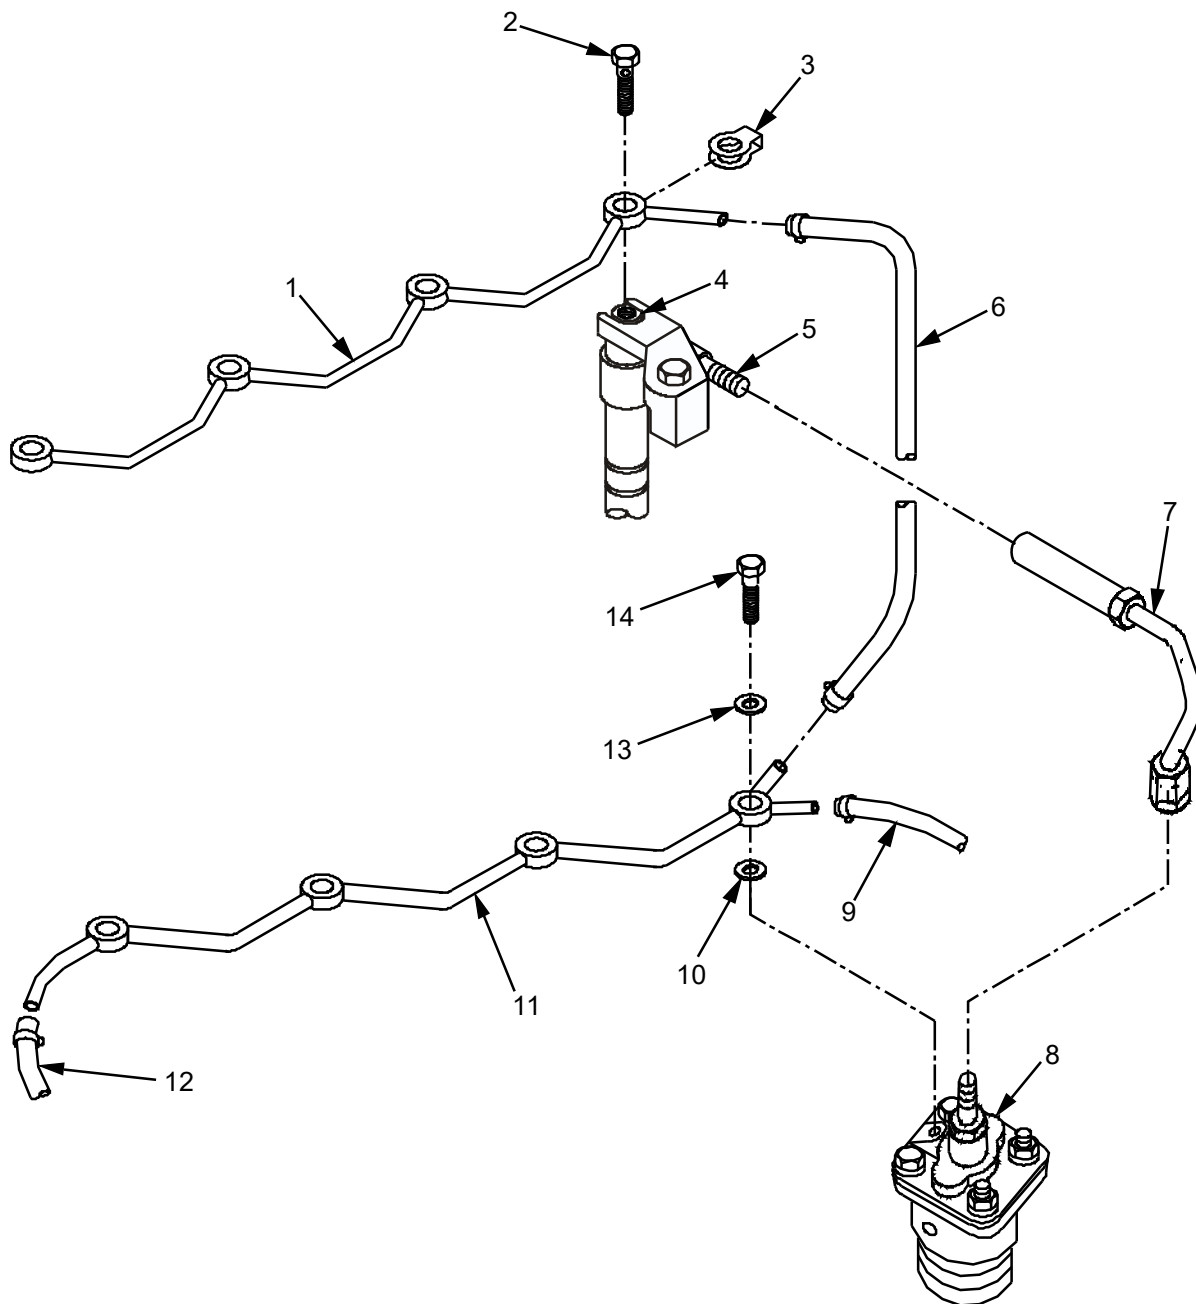

Figure 4. Fuel Injection System Lines - Replace.
6. Disconnect injector fuel line (Figure 4, Item 7) from fuel injector (Figure 4, Item 5).
7. Disconnect injector fuel line (Figure 4, Item 7) from corresponding fuel injector pump (Figure 4, Item 8).
1. Place injector fuel line (Figure 4, Item 7) into position.
2. Finger tighten injector fuel line (Figure 4, Item 7) to corresponding fuel injector pump (Figure 4, Item 8).
3. Finger tighten injector fuel line (Figure 4, Item 7) to corresponding fuel injector (Figure 4, Item 5).
5. Disconnect rubber fuel hose (Figure 4, Item 6) from fuel injector rail (Figure 4, Item 1).
Each bolt (Figure 4, Item 2) has a hole to allow fuel to pass through into the injector. When removing bolts, place in a clean, dry area to prevent dirt and debris from clogging holes.
6. Remove four bolts (Figure 4, Item 2) from fuel injector rail (Figure 4, Item 1).
7. Lift fuel injector rail (Figure 4, Item 1) and brass seals (Figure 4, Item 3) away from fuel injector heads (Figure 4, Item 4).
1. Align fuel injector rail (Figure 4, Item 1) with fuel injector heads (Figure 4, Item 4).
2. Insert four bolts (Figure 4, Item 2) through fuel injector rail (Figure 4, Item 1) and brass seals (Figure 4, Item 3) into fuel injector heads (Figure 4, Item 4).
3. Using torque wrench, tighten fuel injector rail bolts (Figure 4, Item 2) to 7~10 ft./lb (10~14 n-m/1.0~1.4 kgf-m).
4. Connect rubber fuel hose (Figure 4, Item 6) to fuel injector rail (Figure 4, Item 1).
5. Disconnect fuel source hose (Figure 4, Item 12) from fuel injector pump fuel rail (Figure 4, Item 11).
6. Disconnect rubber hose (Figure 4, Item 6) from fuel injector pump fuel rail (Figure 4, Item 11).
7. Disconnect fuel return hose (Figure 4, Item 9) from fuel injector pump fuel rail (Figure 4, Item 11).
8. Remove fuel injector pump fuel lines (Figure 4, Item 7) as per this WP.
10. Remove four bolts (Figure 4, Item 14) from fuel injector pump fuel rail (Figure 4, Item 11).
11. Remove four brass seals (Figure 4, Item 13) from top of fuel injector pump rail (Figure 4, Item 11).
12. Lift fuel injector pump fuel rail (Figure 4, Item 11) away from fuel injector pumps (Figure 4, Item 8).
13. Remove four brass seals (Figure 4, Item 10) from bottom of fuel injector pump rail (Figure 4, Item 11).
1. Align fuel injector pump fuel rail (Figure 4, Item 11) with fuel injector pumps (Figure 4, Item 8).
2. Place four brass seals (Figure 4, Item 10) between fuel injector pump fuel rail (Figure 4, Item 11) and fuel injector pumps (Figure 4, Item 8).
3. Place four brass seals (Figure 4, Item 13) on top of fuel injector pump fuel rail (Figure 4, Item 11) and insert four bolts (Figure 4, Item 14).
4. Using torque wrench, tighten fuel rail bolts (Figure 4, Item 14) to 15~18 ft./lb (20~25 n-m/ 2.0~2.5 kgf-m).
5. Attach fuel return hose (Figure 4, Item 9) to fuel injector pump fuel rail (Figure 4, Item 11).
6. Attach rubber hose (Figure 4, Item 6) to fuel injector pump fuel rail (Figure 4, Item 11).
7. Attach fuel source hose (Figure 4, Item 12) to fuel injector pump fuel rail (Figure 4, Item 11).
8. Install fuel injector pump fuel lines (Figure 4, Item 7) as per this WP.
5. Disconnect rubber hose (Figure 4, Item 6) from fuel injector fuel rail (Figure 4, Item 1).